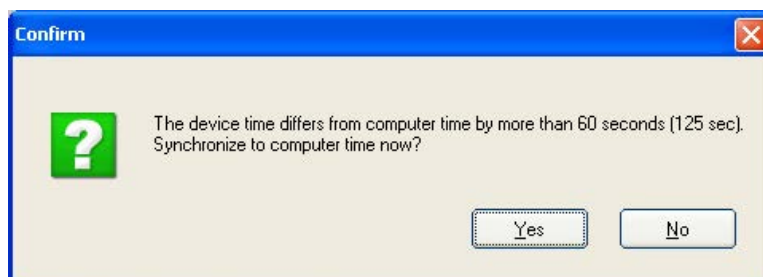

Figure 4.3—Prompt for authorizing time and date synchronization
3. If the internal time and date programmed into the instrument differs from the time and date displayed on the computer by more than 60 seconds, the software will prompt the user to synchronize the instrument time/date to match the computer time/date (Figure 4.3, page 43). This ensures that the instrument displays correct time, regardless of time zone differences.